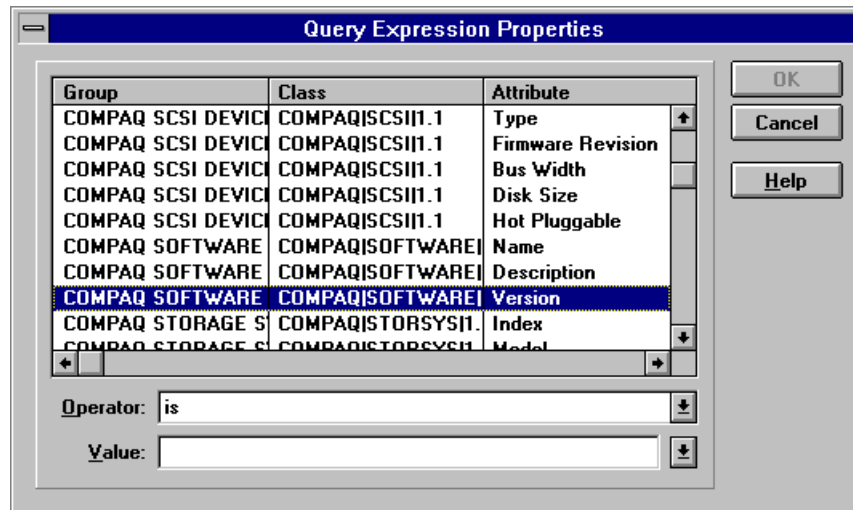

Figure 6-6. Finding the Version attribute
6. Scroll through the list until you find the *Version* attribute. An example of the Query Expression Properties window is shown in Figure 6-6.